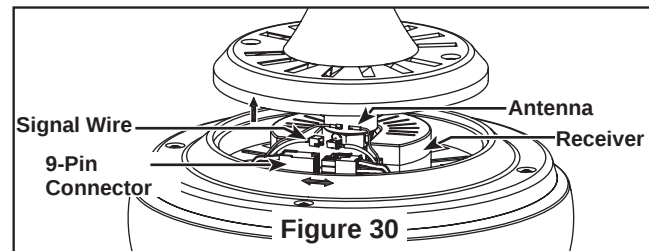

Figure 30
- ☐ 2. Unplug antenna, signal wire and 9-PIN connector than replace new receiver. (Figure 30)